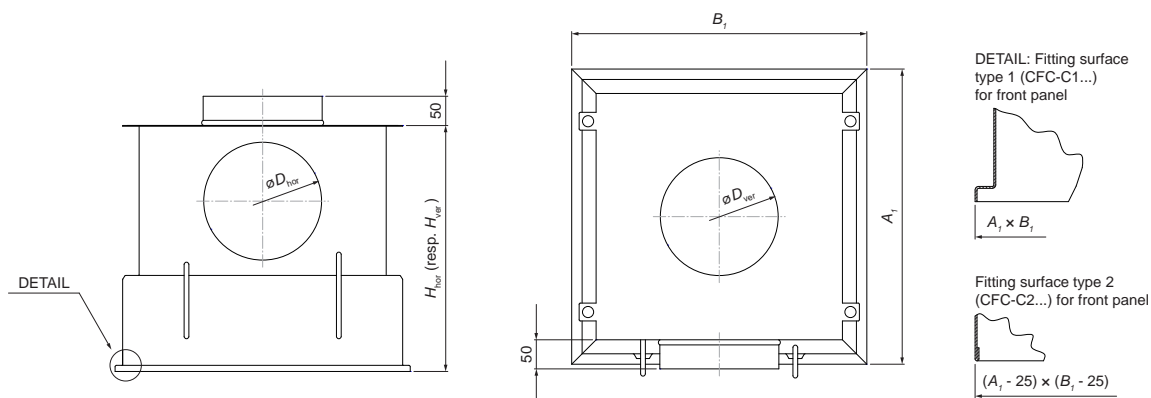
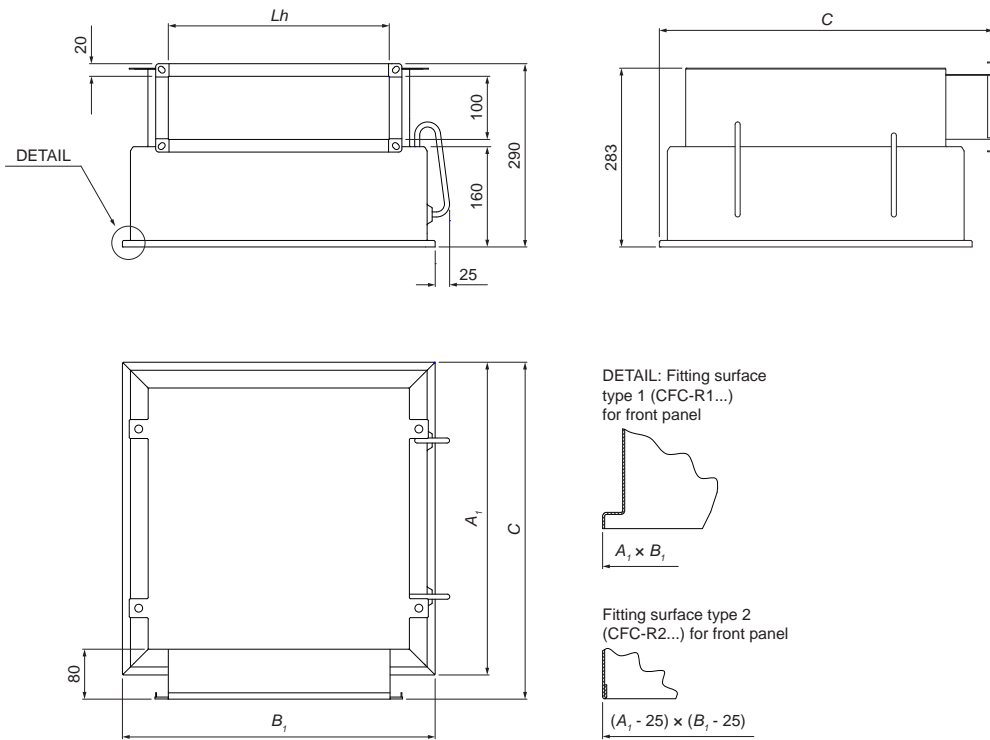

Fig. 1: Ceiling clean filtering cassette CFC-C (Classic)
Fig. 4: Ceiling clean filtering cassette CFC-R (with a right-angle supply connection)
1. See „Detail“ in Fig. 1... Fig. 4. Not defined for design type W (Wall).